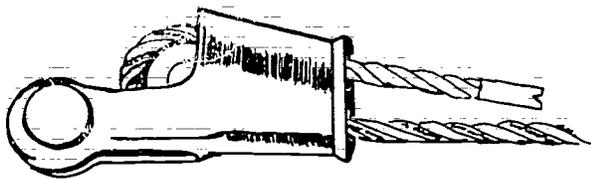

Figure 7-87. Wedge Socket (Open Type)
**Wedge Socket** Wedge sockets are intended for "on the job" attachment and for quick rope replacement. Efficiencies will range from 80% to 90% of rated rope strength. These are available in both open and closed types (Figure 7-87).